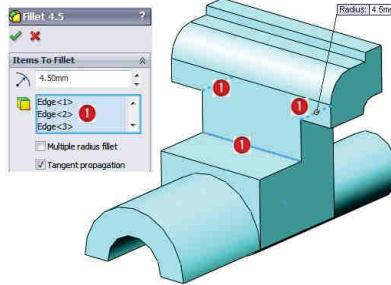

Fig. 2.30
**15 Racordare 3 muchii R4.5:** comanda **Fillet** - Fig. 2.30 -  $\Delta_{r1}$  rază R4.5 / selecție 3 muchii /  .
**15 How to fillet 3 R4.5 edges:** the **Fillet** command - Fig. 2.30 –  $\Delta_{r1}$  R4.5 radius/ select 3 edges /  .